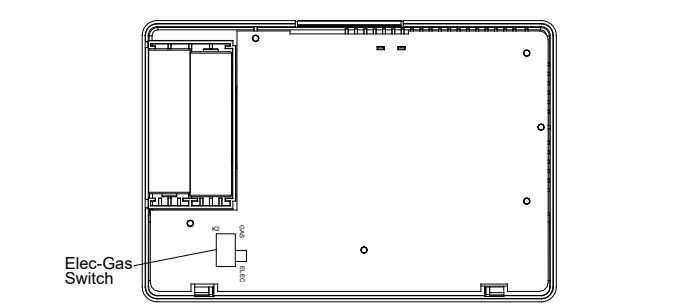

Figure 1. Electric/Gas Switch (Fan Option)
This thermostat is configured from the factory to operate in heat pump and electric heat mode. It is designed for systems that require the thermostat to energize the fan on a call for heat. If your system uses a fossil fuel (gas, oil, etc.) or forced air system that does not require the thermostat to control the fan, locate the ELEC/GAS switch on the back of the thermostat (see Fig. 1) and switch it to the GAS position. This will prevent the thermostat from turning on the fan immediately on a call for heat. If you are unsure if your heating/cooling system requires the thermostat to control the fan, contact a qualified HVAC professional. When the thermostat is configured for any other non-conventional mode (*reference page 2 configuration menu*), the thermostat will always power the blower fan on a call for heat. The ELEC/GAS switch must be set to match the type of auxiliary heat your system uses for proper operation in Heat mode. All wiring diagrams are for typical systems only. Refer to equipment manufacturers' instructions for specific system wiring information.
- Fasten base loosely to wall, as shown in fig. 1, using two mounting screws. Place a level against bottom of base, adjust until level, and then tighten screws. (Leveling is for Appearance only and will not affect thermostat operation.) If you are using existing mounting holes, or if holes drilled are too large and do not allow you to tighten base snugly, use plastic screw anchors to secure subbase.